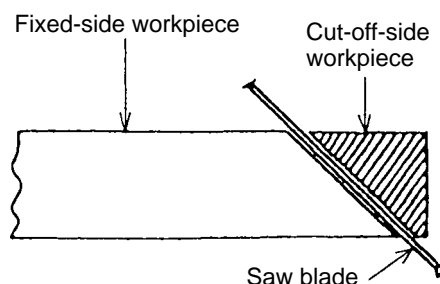

Fig. 9
This power tool is equipped with a sub fence. (See Fig. 1.) In the case of direct angle cutting and angle cutting, use the sub fence. Then, you can realize stable cutting of the material with a wide back face. In the case of left bevel cutting, raise the sub fence up as illustrated in Fig. 9 and then turn it counterclockwise.
In the cutting examples illustrated in Fig. 9, the cut surfaces on the sides marked (A) are better than those on the sides marked (B).